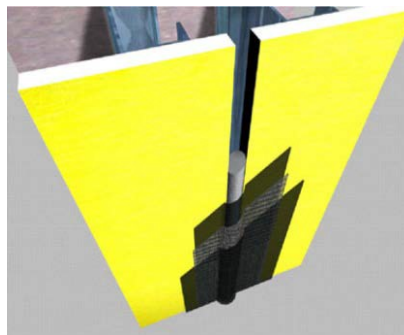

Figure 15
- 3. Using a brush or 3/4 in (19 mm) nap roller, apply a liberal coat of AquaFlash Liquid material to the backer rod and adjacent substrate surface to the width of the AquaFlash Mesh - Figure 15.